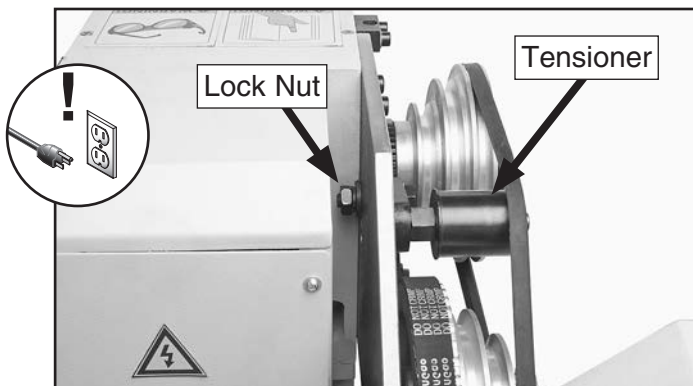
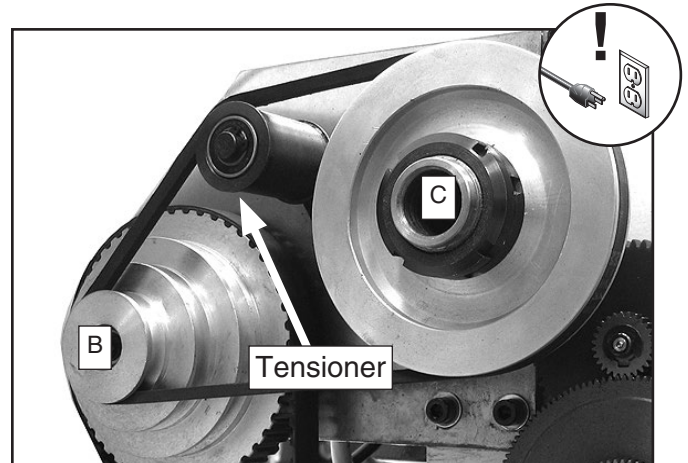

Figure 93. Model G0602 tensioner and lock nut.
Figure 97. Model G0602 low-range belt.
3. Loosen the tensioner lock nut (Model G0602) or tensioner lock bolt (Model G0752) shown in **Figures 93–94**.
—If the *low range belt* between pulleys **B** and **C** (see **Figure 97**) needs to be replaced, loosen the tensioner lock nut (see **Figure 93** on **Page 63**), move the tensioner down, roll the belt off the pulleys, then re-install the new V-belt. Follow **Steps 4-5** on **Page 63** to tension the belt.